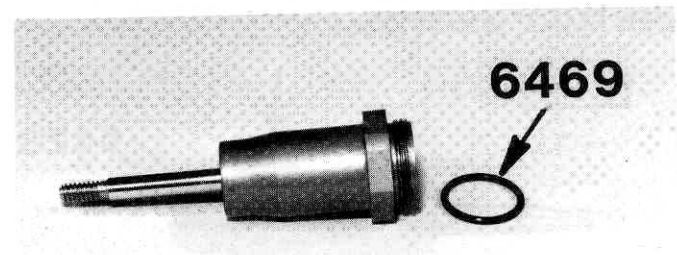

Fig. 100
□ **Fig. 100** Slip the #6469 black O-ring over the threads and seat it flush against the pocket at the bottom of the threads.